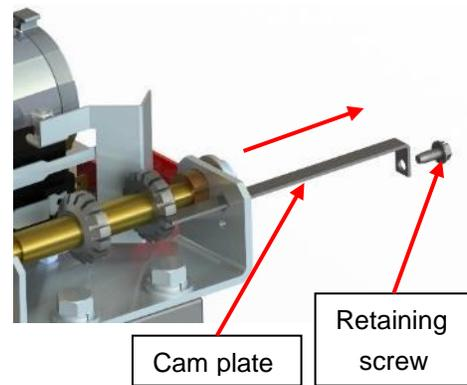

Figure 109
- 3) Remove the slotted retaining screw and slide the cam plate out from operator frame. (Figure 109) (Be careful not to move the cam wheels.)
- 5) Once the height is set to the desired position, return the cam plate to its original position and ensure that it is properly inserted in the slot of each cam. **Never operate the system without the cam plate and retaining screw.** (Figure 109)